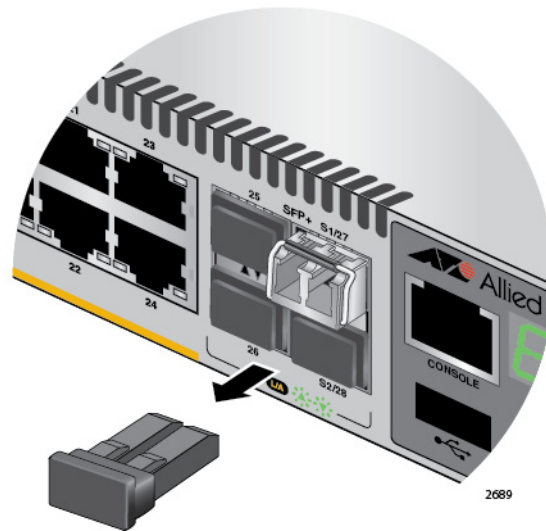

Figure 56. Removing the Dust Cover from a Stacking Transceiver
4. Remove the dust cover from the transceiver, as shown in Figure 56 on page 101.